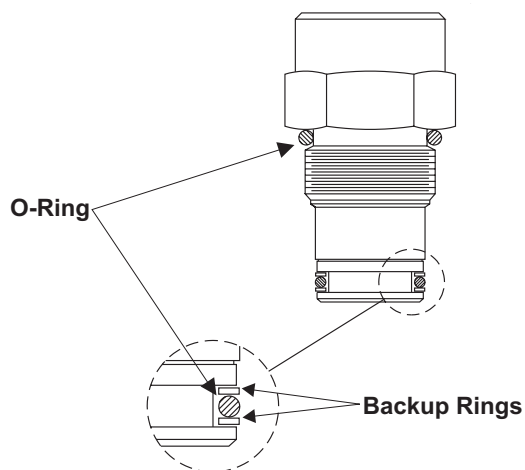

Fig. 8-54 Detail drawing of backup rings and o-ring on solenoid valve cartridge.
3. Install seal kit (or other new parts). Assemble solenoid valve in reverse order of disassembly. **Fig. 8-54**